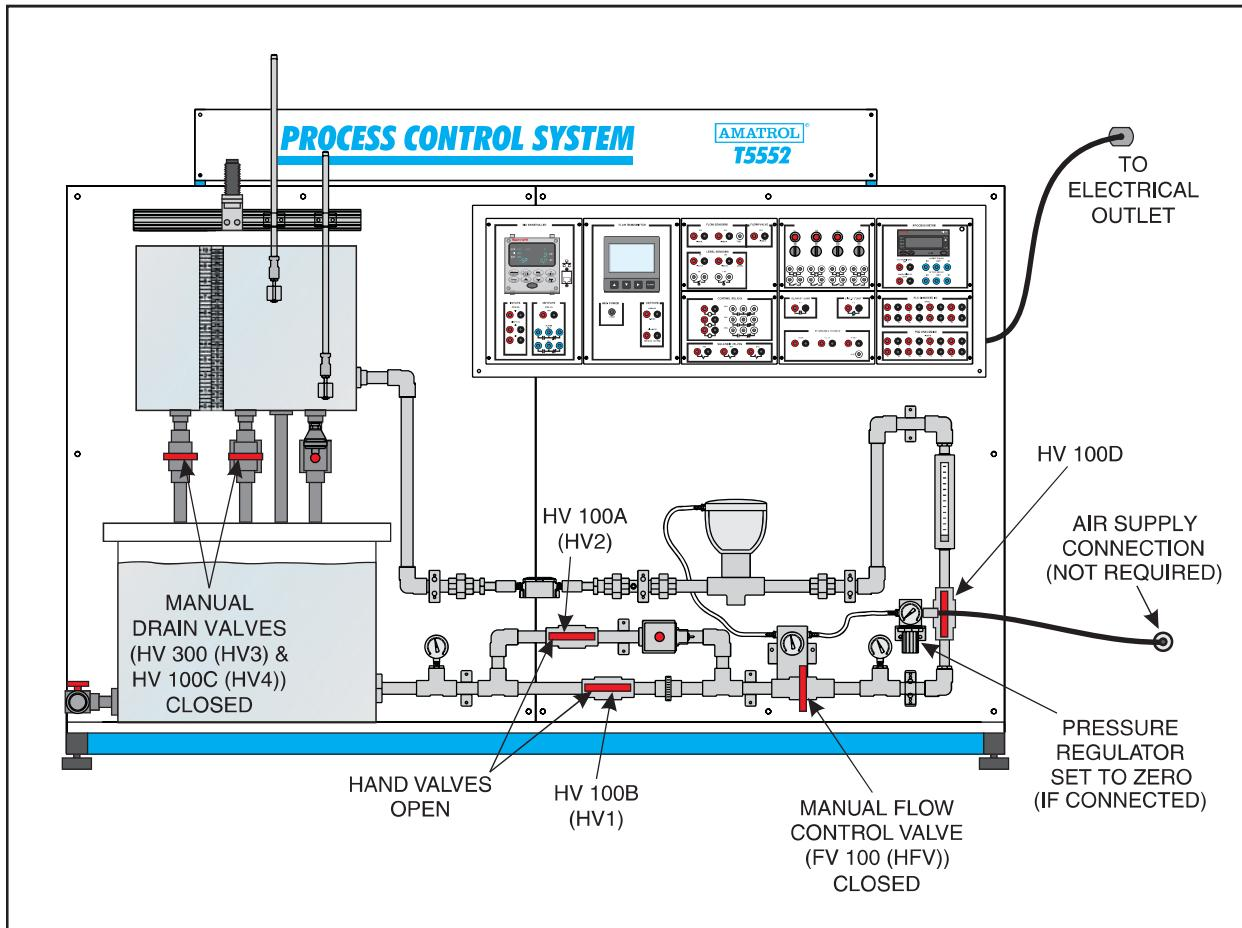

Figure 1-1. T5552 Setup
- 2. Perform the following substeps to set up the T5552, as shown in figure 1-1.